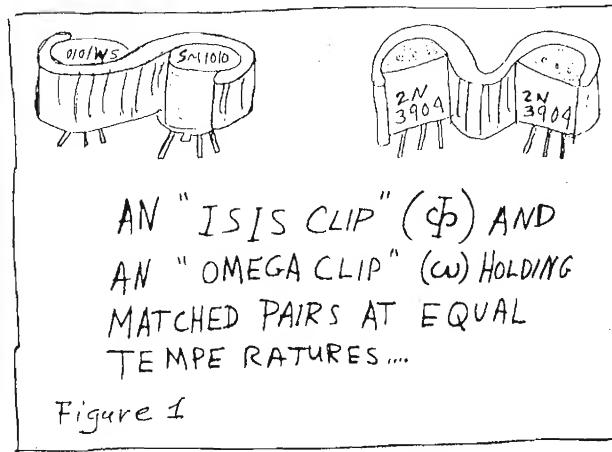

Figure 1
Once upon a time, we designers of op amps used to locate as many of the critical transistors as we could along the axis of symmetry. We put the input transistors right along the Center Line (CL) of the chip, or on a pc board along the CL of the board. We tried to put the output transistors on the CL, too, down at the far end of the layout. We realized that any heating from the output stage could cause significant, serious input errors. For my discrete layouts, I designed "ISIS Clips" and "Omega Clips" to keep the input transistors at the same temperature (Fig. 1).